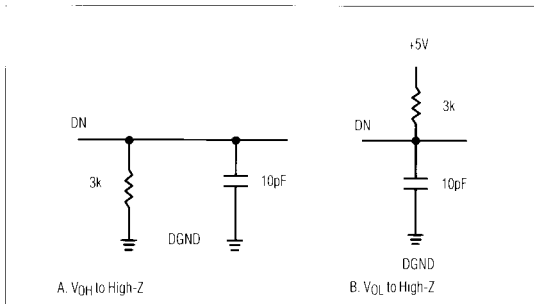

Figure 2. Load Circuits for Data-Hold Time Test
**Note 8:** t7 is defined as the time required for the data lines to change 0.5V when loaded with the circuits of Figure 2. Specifications subject to change without notice.